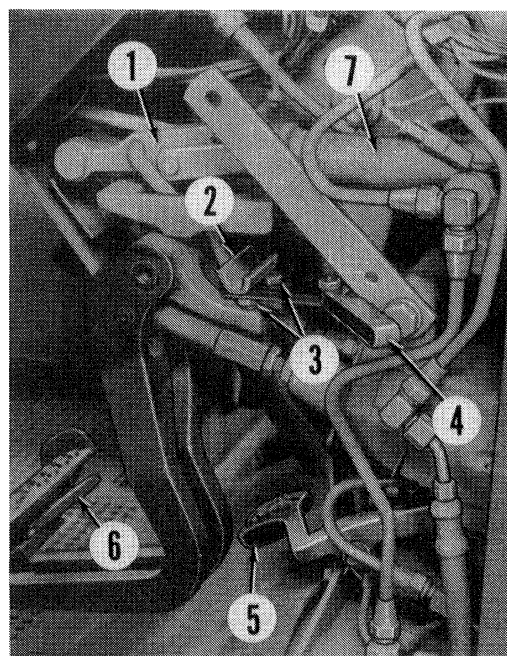
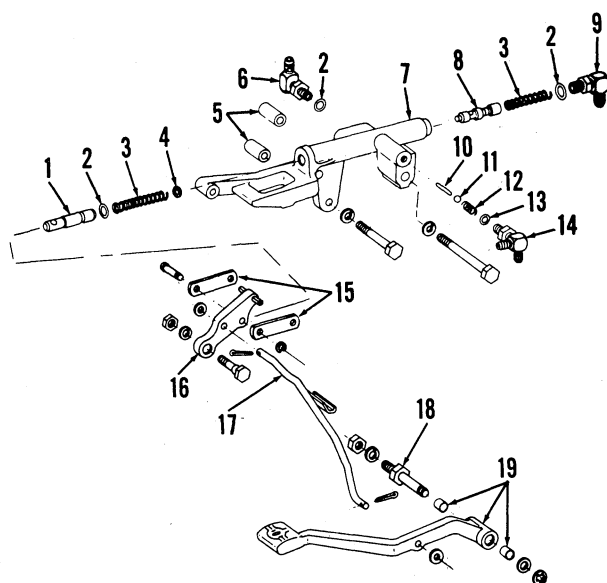

Fig. 188—With differential lock pedal "ON," adjust cap screws (3) to obtain 0.010-0.030 inch (0.3-0.8 mm) clearance between head of screws and release bar (2).
Fig. 189—Exploded view of differential lock control valve and operating linkage.
169. ADJUSTMENT The differential lock valve is applied through an operating rod from the foot pedal to an over-center arm. The over-center feature holds the valve in applied position until either brake pedal is depressed. When a brake pedal is depressed, the head of lock adjusting screws (3—Fig. 188) contacts rod release bar (2) which pushes over-center link (1) upward to release the valve.
and a 0-1000 psi (0-7000 kPa) gage in the line. Oil temperature must be at least 100° F (38° C) when checking pressure. Operate engine at 2000 rpm and depress lock pedal. Pressure should be 435-485 psi (3000-3345 kPa). If pressure is incorrect, disconnect valve links (15—Fig. 189), remove plunger (1) and add or remove shims (4). One shim should change pressure about 25-30 psi (175-205 kPa).
170. R&R AND OVERHAUL. To remove control valve (7—Fig. 188), first open brake bleed valves and depress brake pedals to relieve system pressure. Remove dash cowl cover. Remove differential lock pressure line from front of valve, pressure supply line and pressure return line. Remove cap screw securing over-center arm (16—Fig. 189) and disconnect operating rod (17). Remove retaining cap screw from rear end of brake pedal brace. Remove valve mounting cap screws and lift out valve unit and spacers.
When disassembling valve, note that items (10 through 14—Fig. 189) must be removed before pressure control valve (8) can be removed. All parts may be renewed individually. Be sure to renew all "O" rings.